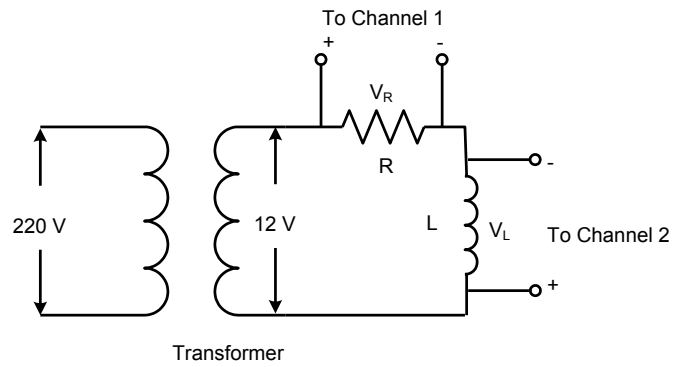
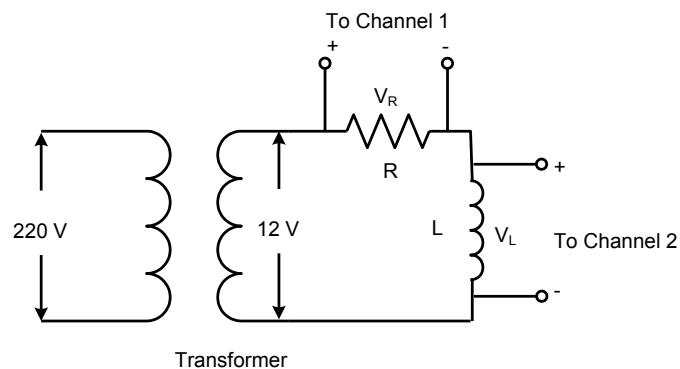

Figure 3: Experimental setup for R-L circuit
Figure 6
1. Make the circuit connection for the R-L circuit, (Fig.3). Connect the oscilloscope probes properly as shown.
2. What will happen if the oscilloscope probes of Fig.3 are connected as shown in Fig.6? Explain.
- To correct the circuit of Fig. 6, the probes are connected as shown in Fig.3 (with the ground probes at the same node). In this case, we do not obtain the actual waveshapes. Why? What measure should be taken in the oscilloscope to obtain the actual wave shapes?